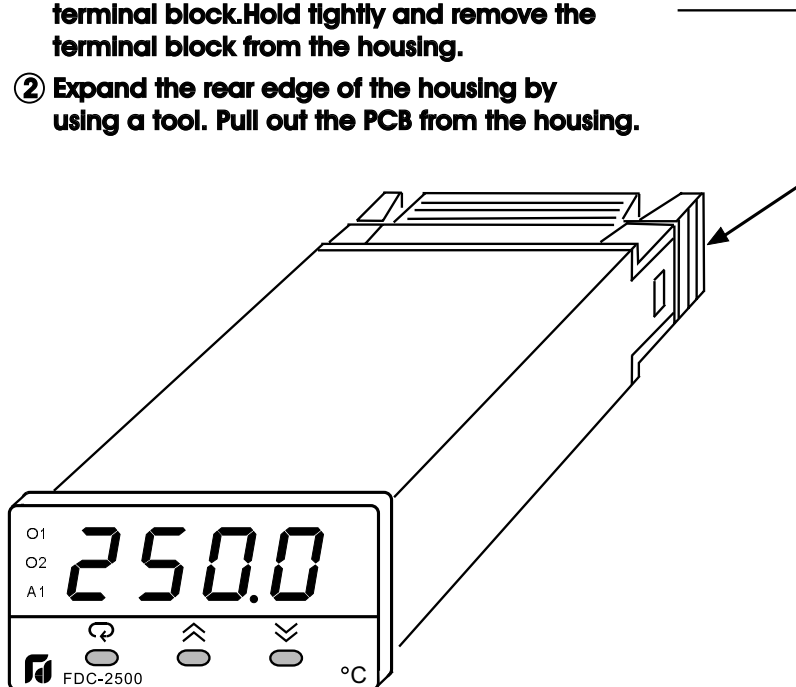

Figure 5.1
- (4) Dismantle the controller according to Figure 5.1 .